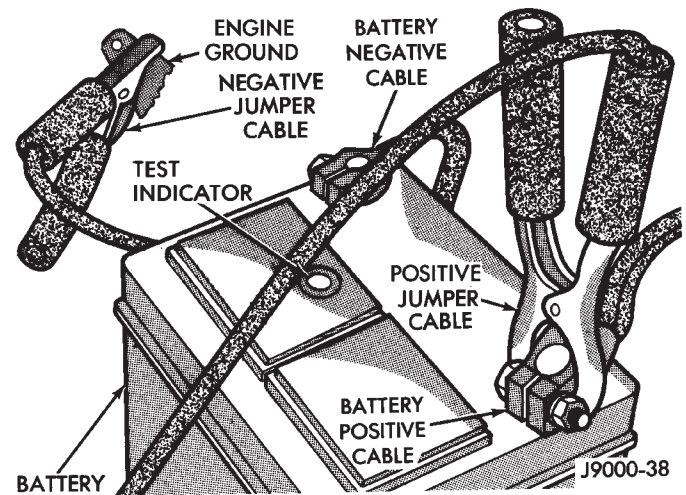

Fig. 1 Jumper Cable Clamp Connections
- (3) On disabled vehicle, place gear selector in park or neutral and set park brake. Turn off all accessories.
- (4) Connect jumper cables to booster battery. RED clamp to positive terminal (+). BLACK clamp to negative terminal (-). DO NOT allow clamps at opposite end of cables to touch, electrical arc will result. Review all warnings in this procedure.
- (5) On disabled vehicle, connect RED jumper cable clamp to positive (+) terminal. Connect BLACK jumper cable clamp to engine ground as close to the ground cable attaching point as possible (Fig. 1).
- (6) Start the engine in the vehicle which has the booster battery, let the engine idle a few minutes, then start the engine in the vehicle with the discharged battery.